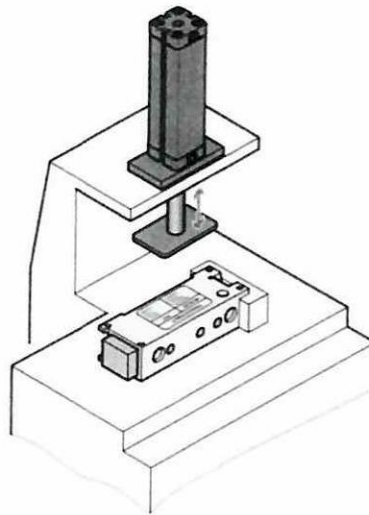

Figure Q2(b)
- (e) Given a clear plastic bottle, briefly explain three(3) types of optical sensors and decide which sensor could be used to detect it. (6 marks)
- (b) Prototypes of aluminium housings need to be stamped with ID codes as shown in **Figure Q2(b)**. The housings are inserted into the stamping machine by hand. A pneumatic cylinder is used to stamp the codes and requires the flow of the air restricted at the inlet, and use the spring to determine the speed of retraction. This stamping cylinder can be operated and controlled manually to actuate the forward and return strokes in two different circuits; either a pushbutton actuator or a foot lever actuator. The actuator is held down until the stamping procedure is complete.